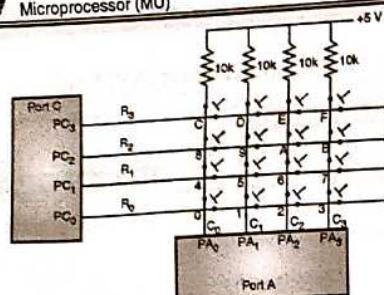

Fig. 9.6.1: Keyboard matrix
- Line reversal technique e.g. Hexadecimal keyboard consists of 16 keys. The keys are arranged as 4 × 4 matrix, hence the number of input/output lines required to connect this keyboard are 4 + 4 = 8. Fig. 9.6.1 shows a connection of hexadecimal key board with 8255.